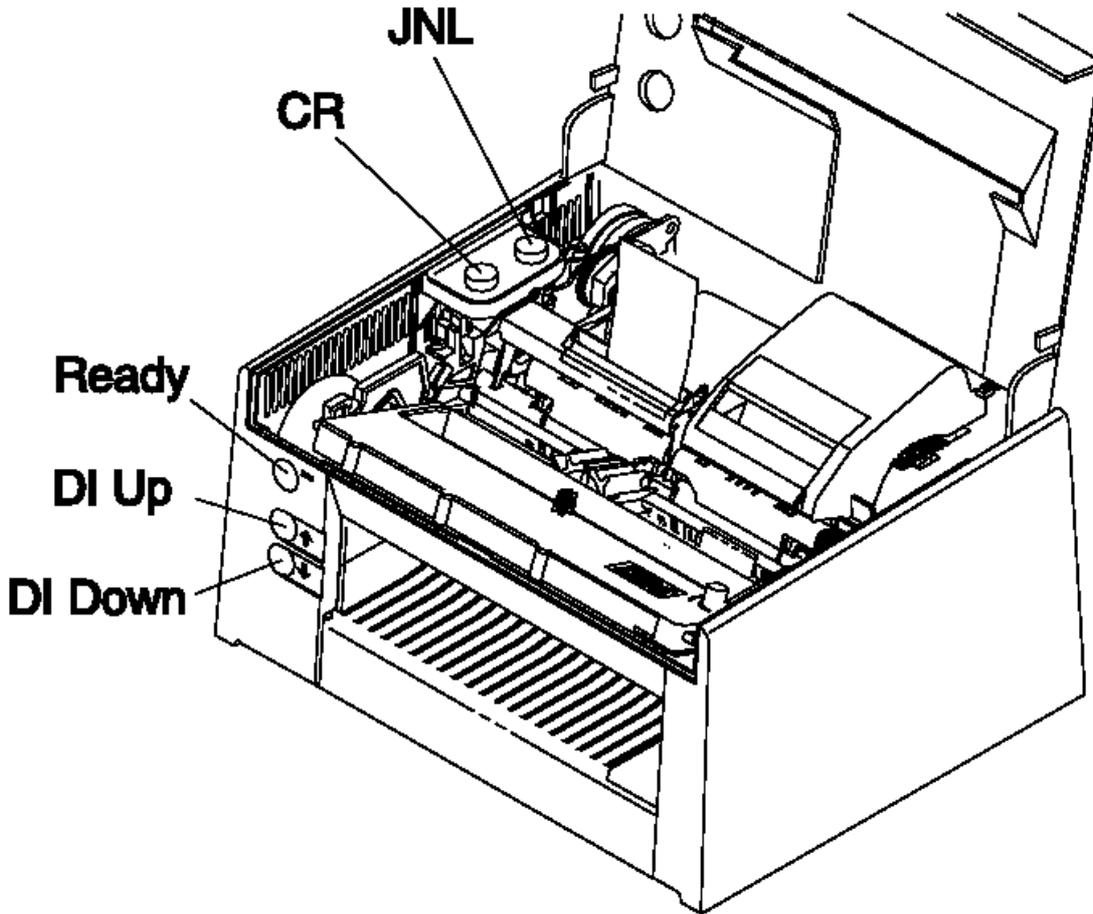

Figure 6-1. Printer Buttons
Note: When the printer access cover is open, the Ready button functions as a test button. The other four buttons, when pressed individually, function as paper advance buttons. See Figure 6-1 for the location of the printer buttons.
When the printer resets correctly, the printer indicator light next to Ready button comes on for a short time and the print head moves to the center position. See Figure 6-1 for the location of the buttons.
- Press JNL button to advance paper at the JNL station. See Figure 6-1.